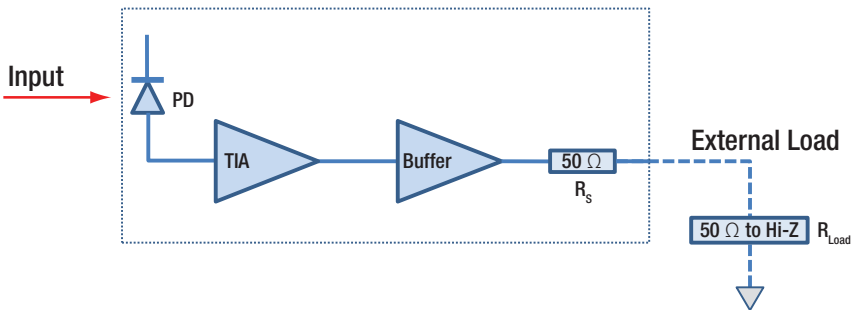

Figure 2. Block Diagram of the PDA015C Amplified Si Photodetector
Thorlabs' PDA015C is ideal for measuring both modulated/pulsed and CW light sources. As is shown in Figure 2, the PDA015C includes a reverse-biased PIN photodiode (PD) mated to a fixed gain transimpedance amplifier (TIA) followed by a buffer amplifier, and packaged in a rugged housing. The photodiode generates a current in response to the optical input which is then converted to a voltage and amplified by the TIA. The Buffer Amplifier adds yet another level of gain. Note that the output is passed through a 50  $\Omega$  series resistor before reaching the output connector. The user can apply either a 50  $\Omega$  or high-impedance external load depending on the situation.